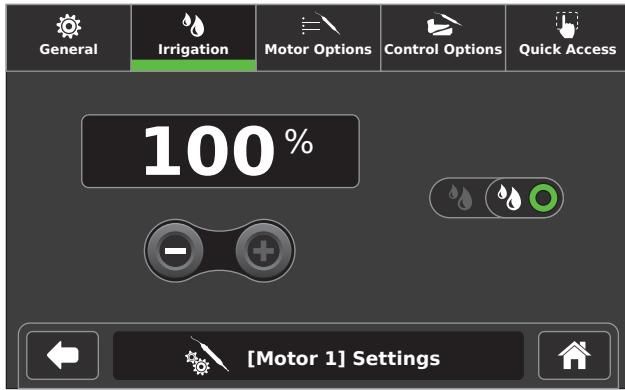

Figure 22 – Irrigation Screen
3. Adjust settings as necessary (Figure 22).